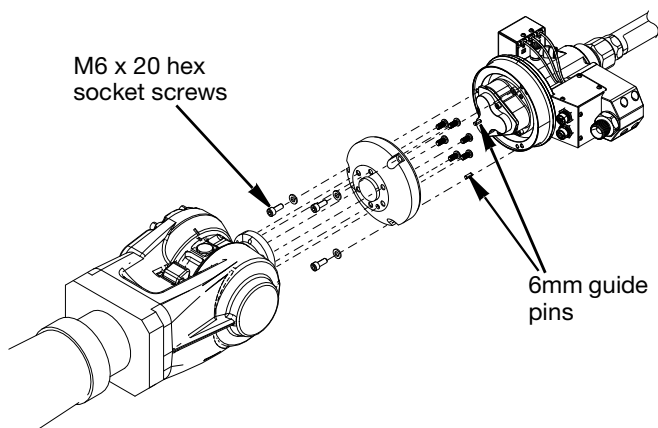

FIG. 2
2. The mounting flange is then attached to the body of the SST Switch 3D Gun with three M6x20 hex socket screws. Torque to 98.2 in-lbs (11.1 N•m). It is important to make sure the 6mm guide pins supplied with the kit are inserted into the correct positions. See FIG. 2.